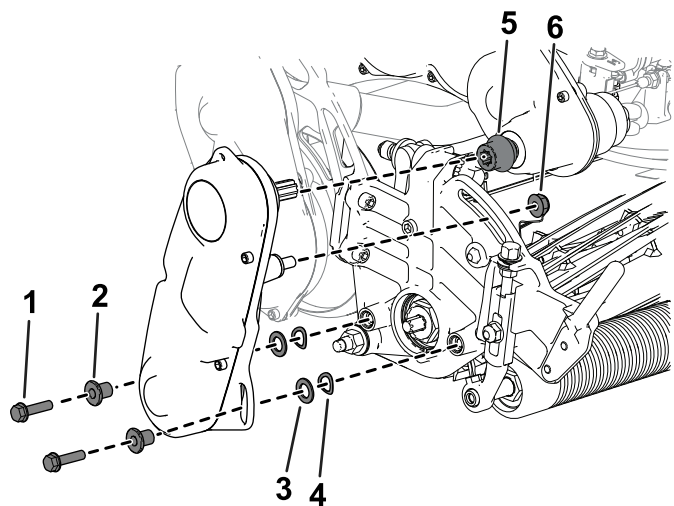

Figure 40
3. Remove the reel-drive assembly from the cutting unit (Figure 40) and retain the hardware.